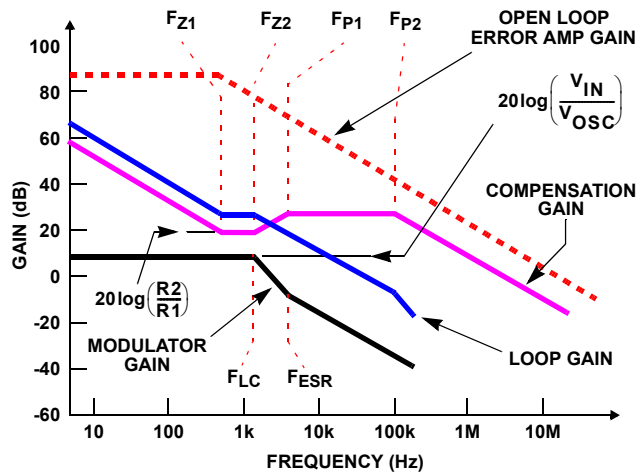

FIGURE 8. ASYMPTOTIC BODE PLOT OF CONVERTER GAIN
Figure 8 shows an asymptotic plot of the DC/DC converter's gain vs frequency. The actual Modulator Gain has a high gain peak due to the high Q factor of the output filter and is not shown in Figure 8. Using the above guidelines should give a Compensation Gain similar to the curve plotted. The open loop error amplifier gain bounds the compensation gain. Check the compensation gain at  $F_{P2}$  with the capabilities of the error amplifier. The Closed Loop Gain is constructed on the graph of Figure 8 by adding the Modulator Gain (in dB) to the Compensation Gain (in dB). This is equivalent to multiplying the modulator transfer function to the compensation transfer function and plotting the gain. The compensation gain uses external impedance networks  $Z_{FB}$  and  $Z_{IN}$  to provide a stable, high bandwidth (BW) overall loop. A stable control loop has a gain crossing with -20dB/decade slope and a phase margin greater than 45°. Include worst-case component variations when determining phase margin.